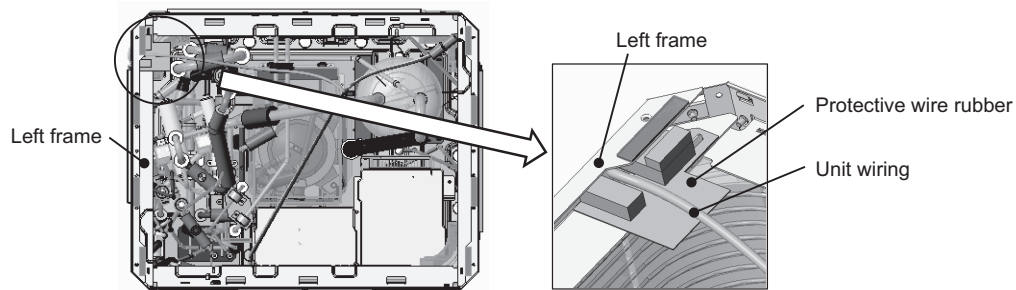

Figure 11
(14) Remove the unit wiring from the left frame (See Figure 11).